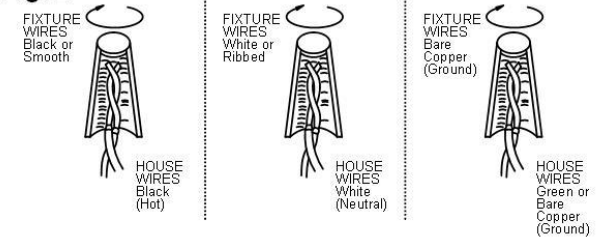

Fig.3
8. To prevent moisture from entering the outlet box and causing a short, use clear caulking (i.e. Indoor/Outdoor Silicone Sealant) to outline the outside off fixture back-plate where it meets the wall leaving a space at bottom to allow moisture a means to escape (Fig3).